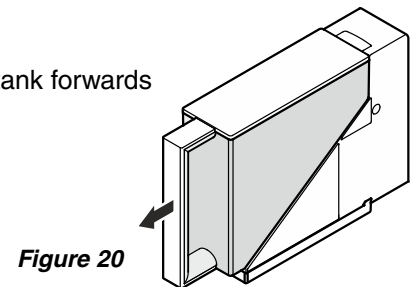

Figure 20
1. Pull out the water tank forwards (Figure 20).